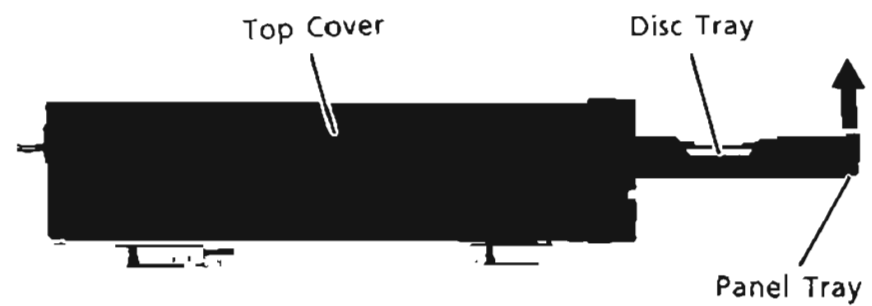

Figure 1
- (1) After removal of the Top Cover, open the Disc Tray.
- (2) Remove the Panel Tray in the arrow direction as shown in Figure 1.